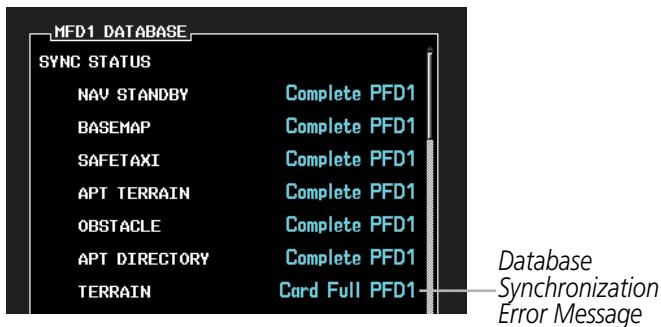

Figure B-6 Synchronization Error Message
If an error occurs during the synchronization, an error message will be displayed, followed by the affected display in the Sync Status section of the Database Window (Figure B-6). If a synchronization completes on one display, but an error occurs on another, the error message will be displayed with the affected display listed after it. When an error message (Table B-1) is displayed, the problem must be corrected before the synchronization can be completed. A power cycle is required to restart synchronization when ‘Card Full’ or ‘Err’ is shown.
- 9) Monitor the Sync Status in the Database Window. Wait for all databases to complete synching, indicated by 'Complete' being displayed as seen in Figure B-6.